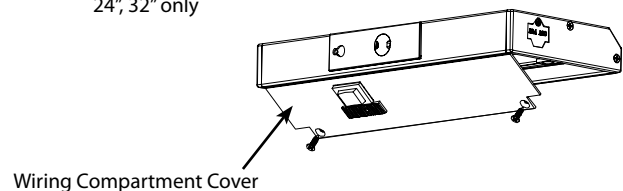
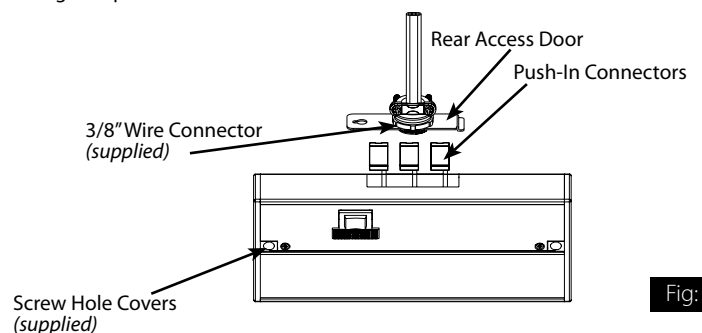

Fig: 3
Fig: 4
- To access internal wiring remove **Wiring Compartment Cover** (Fig.3). Feed wires through **3/8" Wire Connector** (*supplied*) and install connector to **Rear Access Door**. Wire cable to push in connectors. Secure **Rear Access Door** to fixture (Fig. 4).
- Secure fixture to mounting surface using (2) flat head wood screws (*supplied*), be careful not to drive screws all the way through the cabinet bottom. Use shorter screws if necessary (*supplied by others*). Once the fixture is secure to surface insert **Screw Hole Covers** (*supplied*).